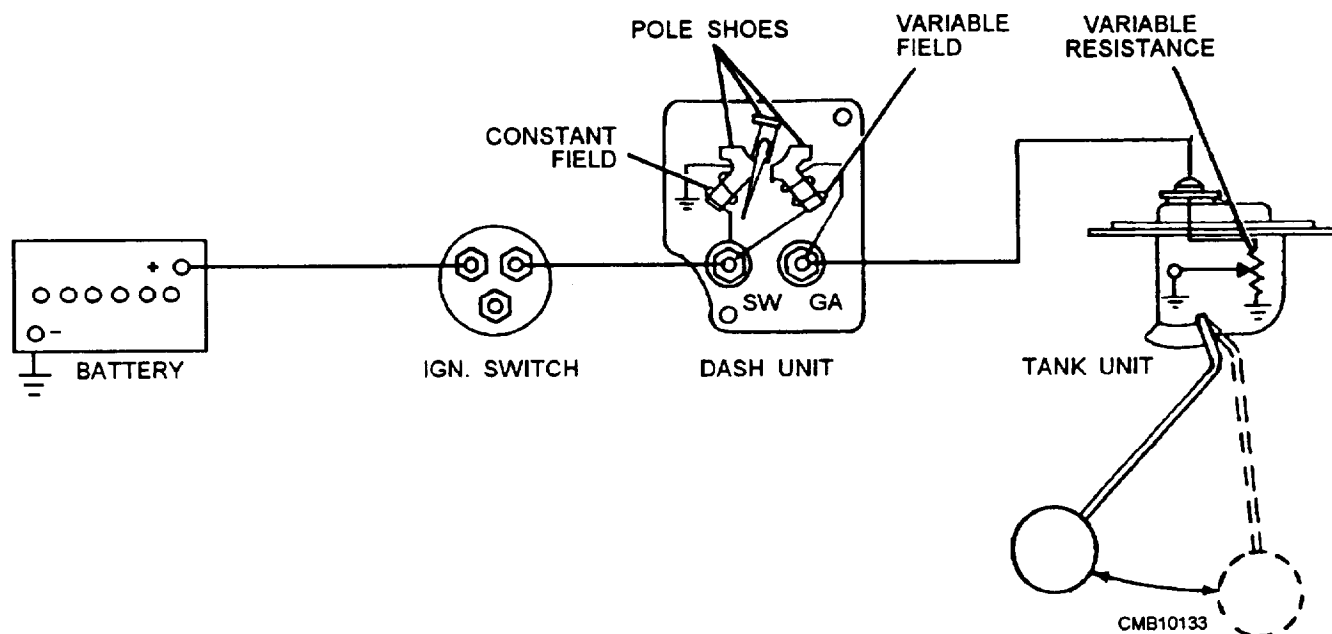

Figure 4-4.—Magnetic fuel gauge.
1. Magnetic Gauge (fig. 4-4). The sending unit in this fuel gauge contains a sliding contact. As the fuel level in the tank changes, the position of the contact changes on a rheostat winding, varying circuit resistance and resulting current flow. The unit on the instrument panel contains two magnetic coils (limiting coil and operating coil) and a permanent magnet that is attached to the gauge needle. When the fuel tank is empty, the limiting coil is stronger than the operating coil, thus the magnet is drawn toward it and the needle reads EMPTY on the gauge. As the tank is filled, the operating coil becomes stronger, attracting the magnet and moving the needle toward the FULL position.